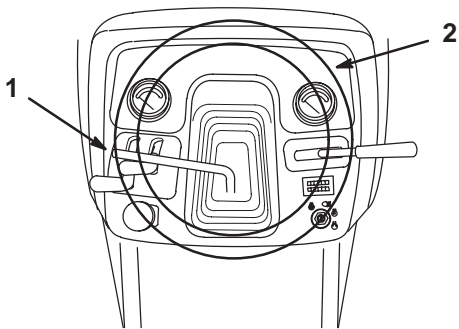

Figure 21
1. Lift the tilt lever to release the lock (Fig. 21).